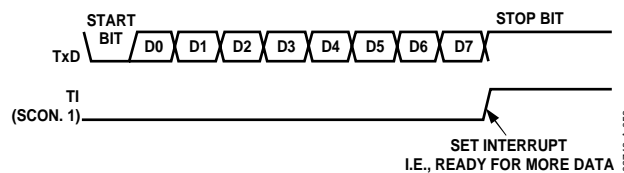

Figure 51. UART Serial Port Transmission, Mode 1
Transmission is initiated by writing to SBUF. The write-to-SBUF signal also loads a 1 (stop bit) into the ninth bit position of the transmit shift register. The data is output bit by bit until the stop bit appears on TxD and the transmit interrupt flag (TI) is automatically set as shown in Figure 51.